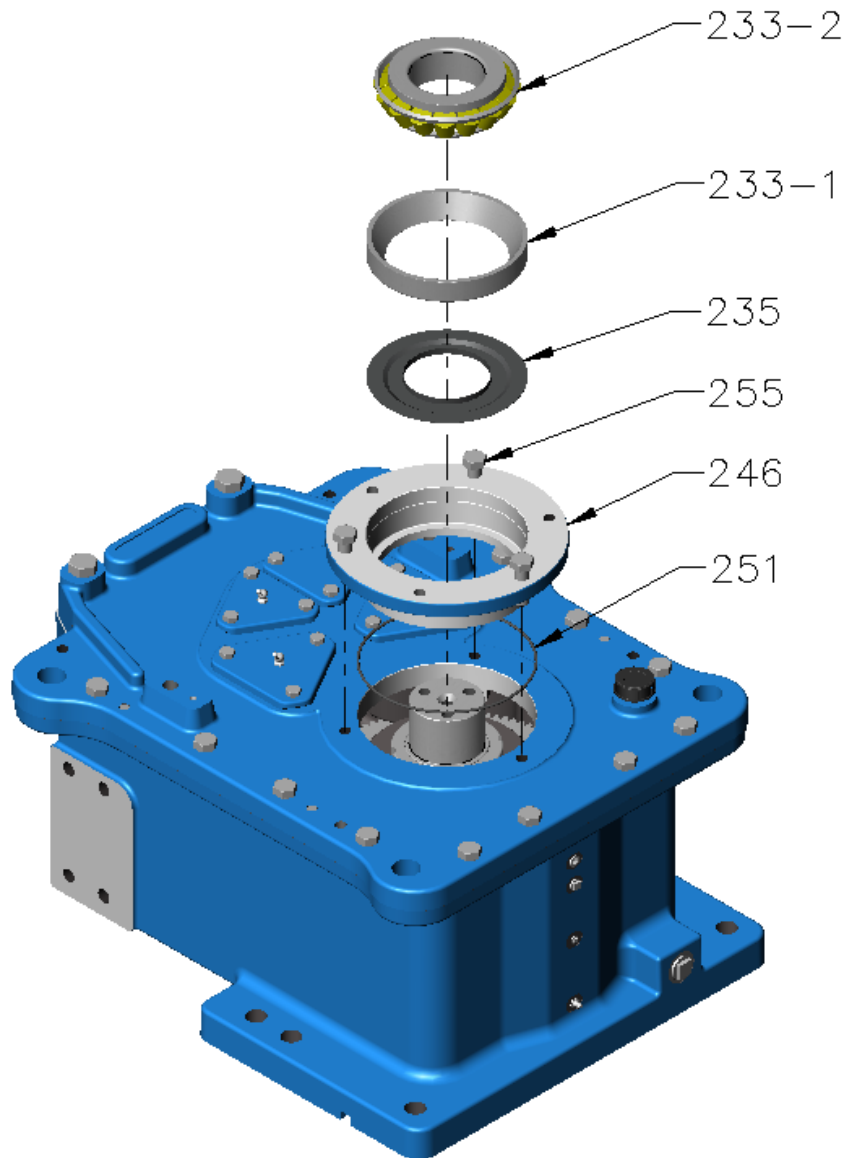

Figure 30 - Output bearing with carrier
- Y. Install output bearing with bearing carrier (refer Figure 30):
- (1) Install the bearing carrier **[246]** along with the o-ring **[251]**
- (2) Torque-tighten the Bolts **[255]** to value given in Table 1
- (3) Place the nilos ring **[235]** into the bearing carrier
- (4) Install the bearing cup **[233-1]** into the bearing carrier
- (5) Heat bearing cone **[233-2]** at 120°C (248°F) and install it in the bearing cup **[233-1]**